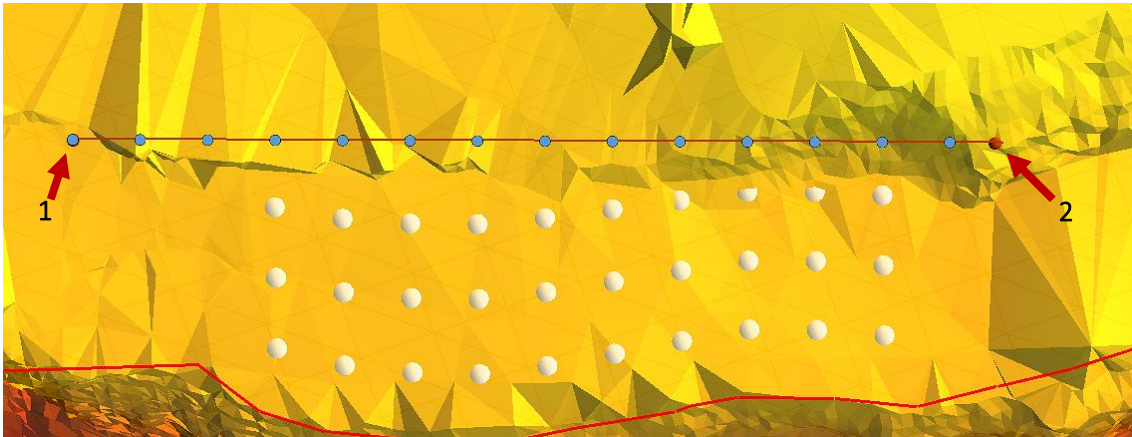

Fig. 158 - Creating new row
After defining the parameters, the user must click one time on the field (1) and then drag the mouse until the place where he wants to build the row (2) - Fig. 158.